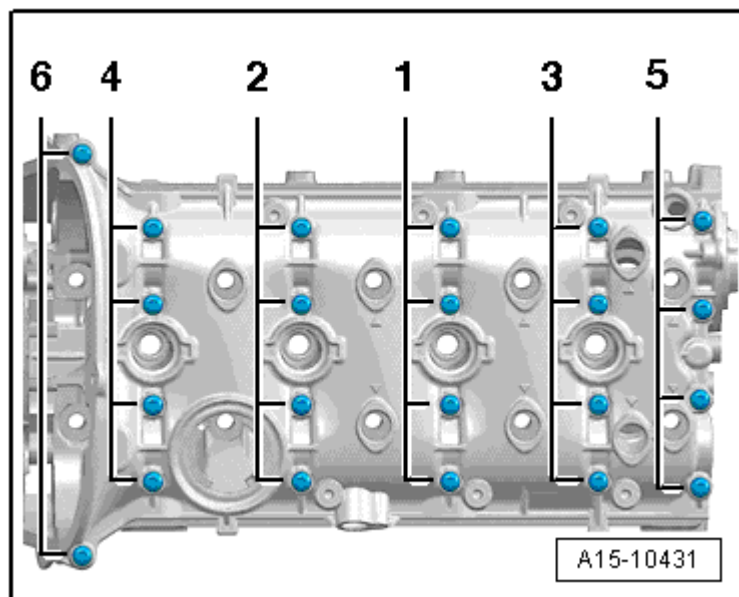

Fig. 7: Identifying Cylinder Head Cover - Tightening Sequence
- Tightening sequence, refer to **Fig. 7**.